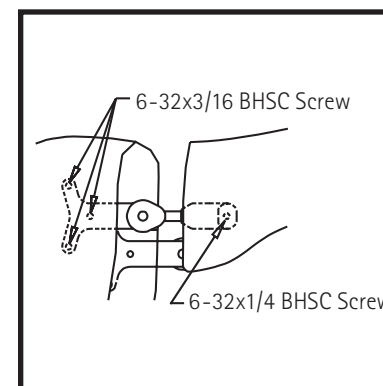

Figure 3b
9. Use a small punch or heated metal rod to gain access to the screw holes shown in Figure 3b. Take care to not cross thread the screws.